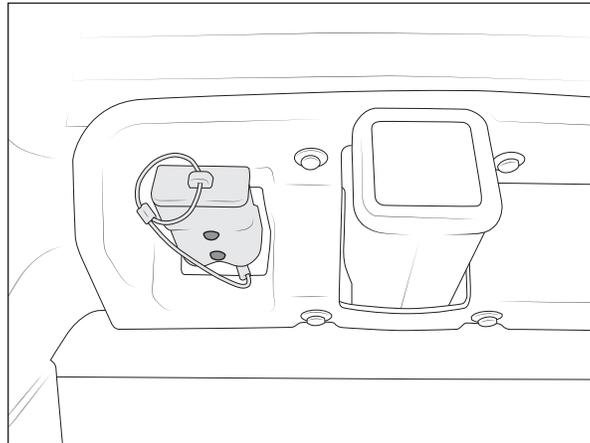

Figure 12
14. Bolt Anderson connector to winch mount with two M6 x 40mm BHCS, Torque to 7 lb-ft. (Fig. 12).